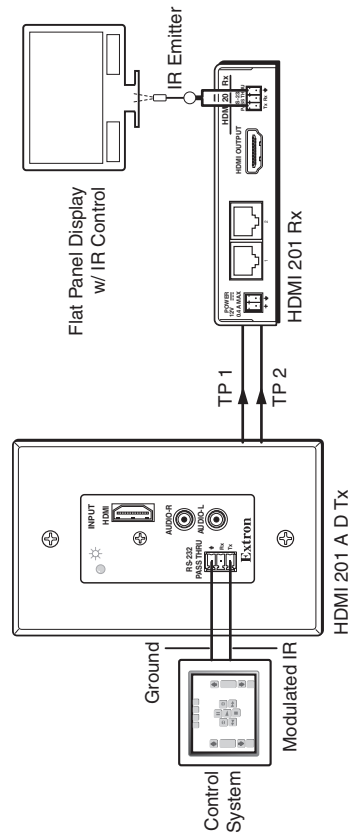

Figure 2-28 — Installation routing modulated IR
Figure 2-28 shows an installation in which the Tx/Rx pair sends a modulated infrared (IR) signal across the link. On the Tx side, control system is connected to the Tx pin (the modulated IR signal) and the Gnd (signal ground) on the transmitter. An IR emitter is connected to the Tx and Gnd receiver output.